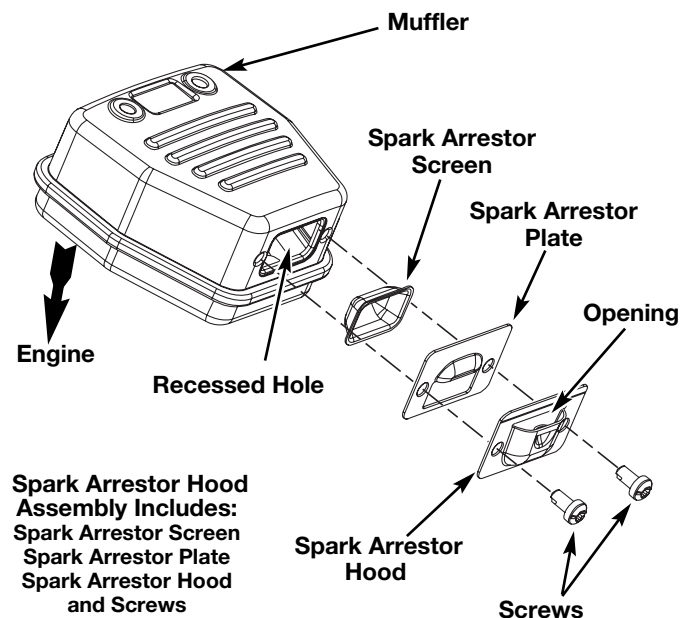

Fig. 21
2. Locate the muffler, but do not remove it. Find the two (2) screws on the bottom of the muffler (Fig. 21). These two screws hold the Spark Arrestor Hood Assembly and the spark arrestor screen to the bottom of the muffler. Remove the two (2) screws using either a Torx T20 or flat blade screwdriver.
6. Place the spark arrestor plate on top of the spark arrestor screen with the “raised” side up and the opening facing towards the engine (Fig. 21).
7. Place the spark arrestor hood on top of the spark arrestor plate with the “raised” side up and the opening facing AWAY from the engine (Fig. 21). Verify that the exhaust will be directed AWAY from the engine.